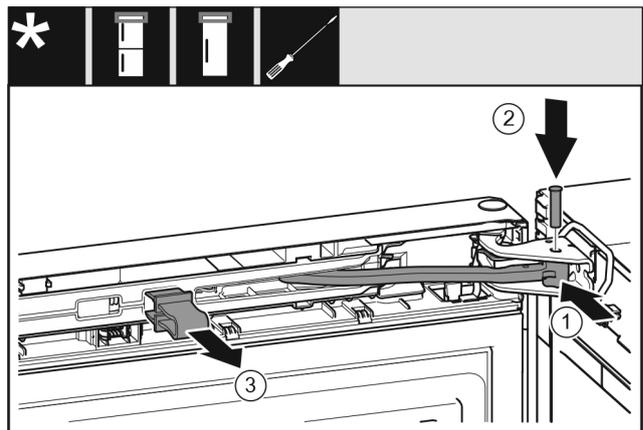

Fig. 56
- ▶ Turn the joint Fig. 56 (1) in the bearing block.
- ▶ Insert the bolt Fig. 56 (2) into the bearing bracket and joint. Ensure that the latching cam is in the groove properly.
- ▶ Remove the safeguard Fig. 56 (3).